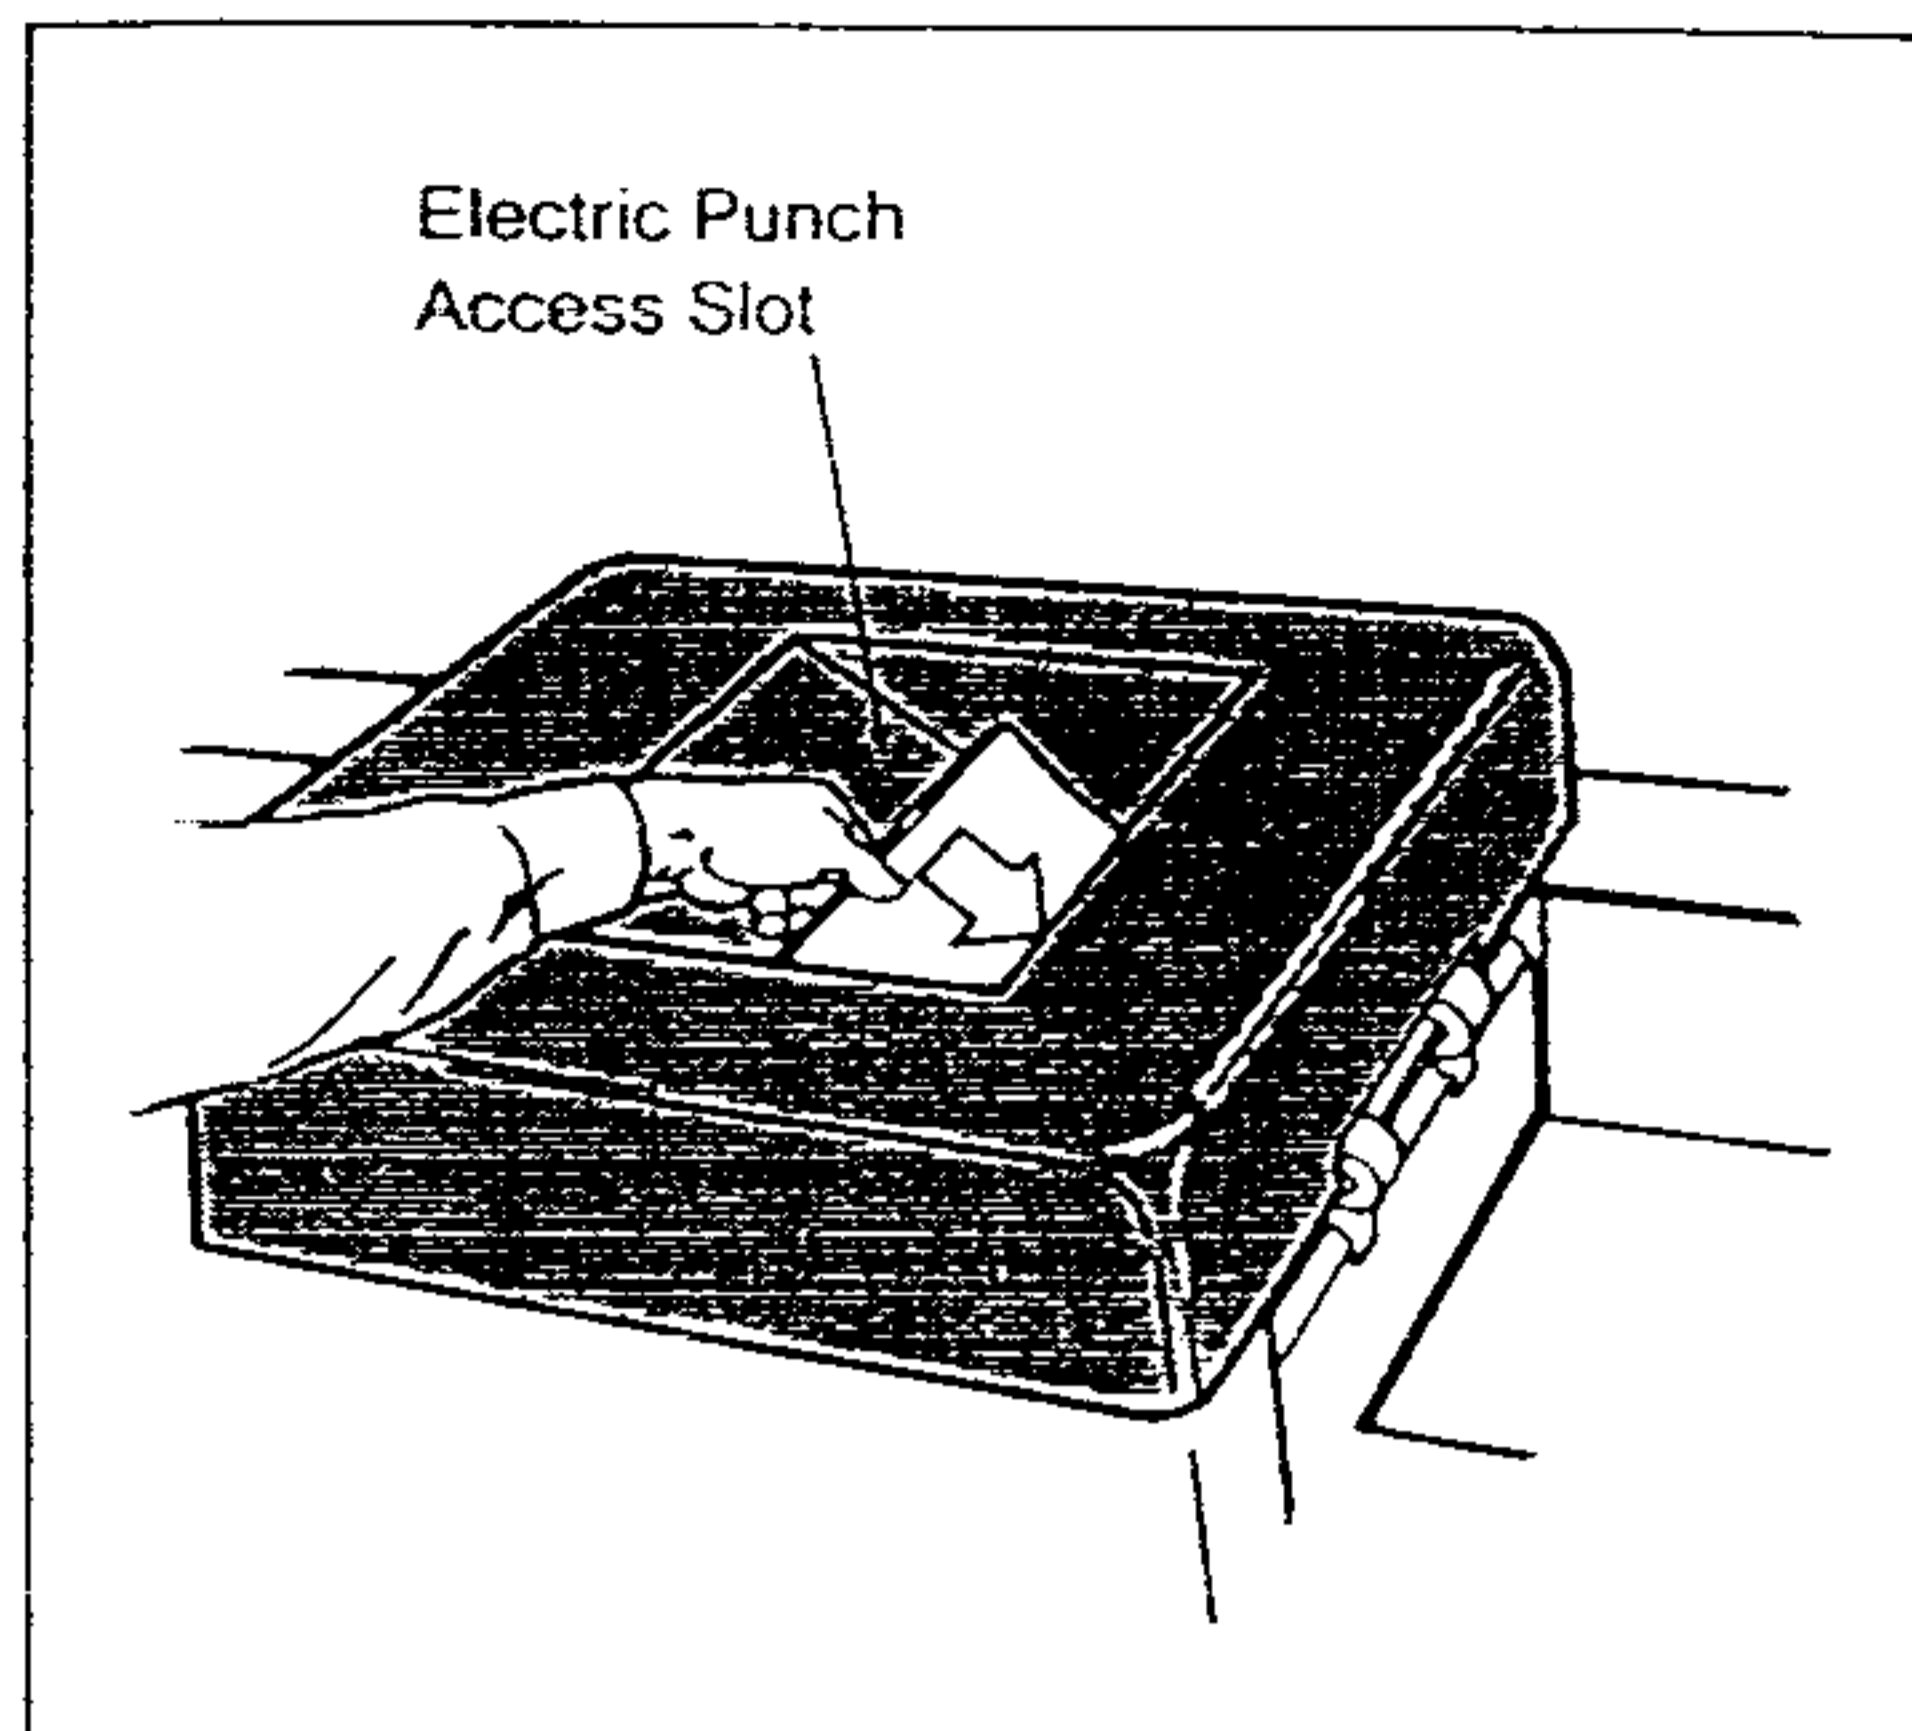

Figure 14
5. Insert sheets into the Electric Punch Access Slot as far as possible, aligning them square against the Side Guide (see Figure 14).